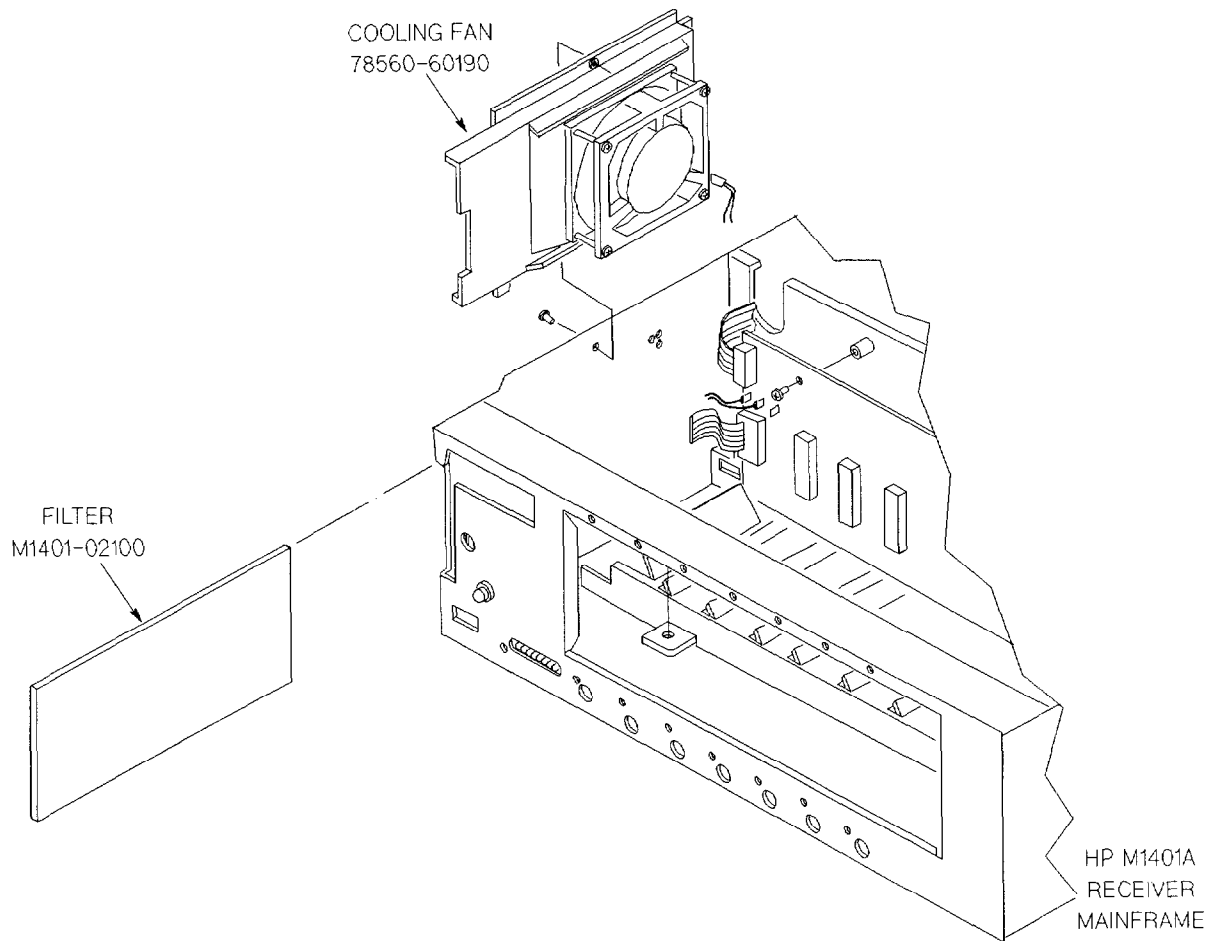

Figure 3-4. Cooling Fan and Filter Locations
2. Remove the front cover (two quarter-turn fasteners) and remove the fan filter from the front of the left side panel (Figure 3-4).